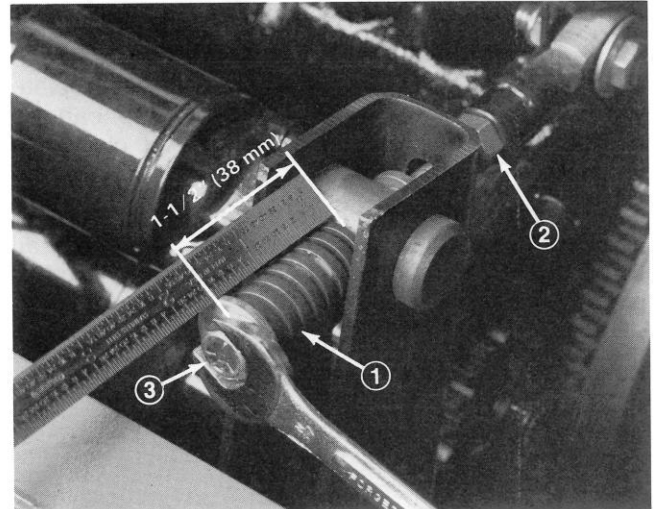
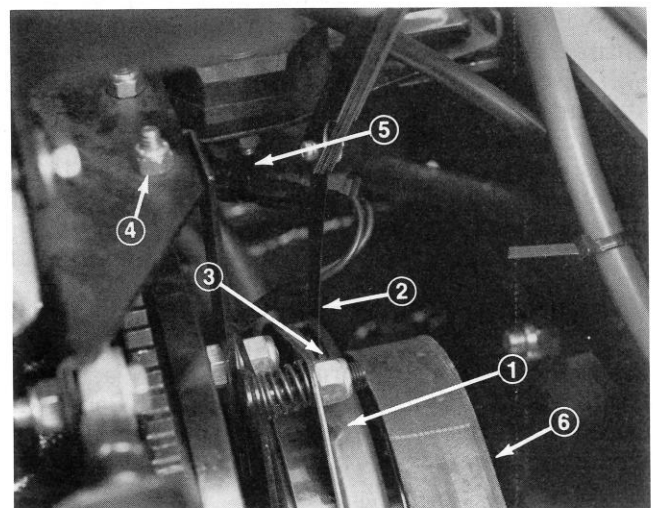

Figure 41
Figure 42
2. Loosen the tensioning rod jam nut (Fig. 41).
3. Use a 1/2" wrench to tighten or loosen the belt tensioning spring (Fig. 41) to a length of 1-1/2" (38 mm).
3. Using a 1/2" wrench, loosen the belt tensioning spring (Fig. 41) all the way.
4. Rotate PTO pulley toward the engine and remove the belt (Fig. 42).
5. Install the new PTO belt and retension the pulley spring to 1-1/2" (38 mm) (Fig. 41).
6. Tighten the jam nut (Fig. 41) and close the hood.
2. Remove the left hand clutch retainer bracket nut and bolt so that the retainer bracket rubber bumper can be removed (Fig. 42).
3. Unplug clutch electric connector (Fig. 42).
4. Adjust the air gap so that a .015 inch feeler gauge slides in between the clutch lining and friction plate with light pressure (Fig. 42). The gap can be decreased by turning the adjusting nut clockwise (Fig. 41).